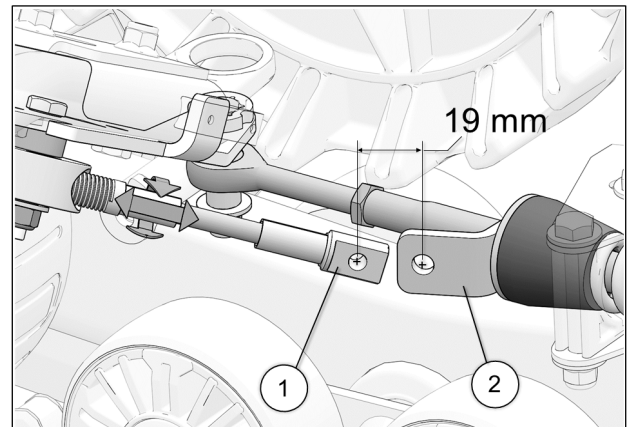

Fig. 24
14. Turn the vehicle's steering wheel to its maximum point of travel on the left. While maintaining pressure on the steering wheel, turn threaded rod to adjust length of cable. See Fig. 24
15. Position cable end hole (1), 19 mm [$\frac{3}{4}$ in.] short of support plate (2) mounting hole. See Fig. 24